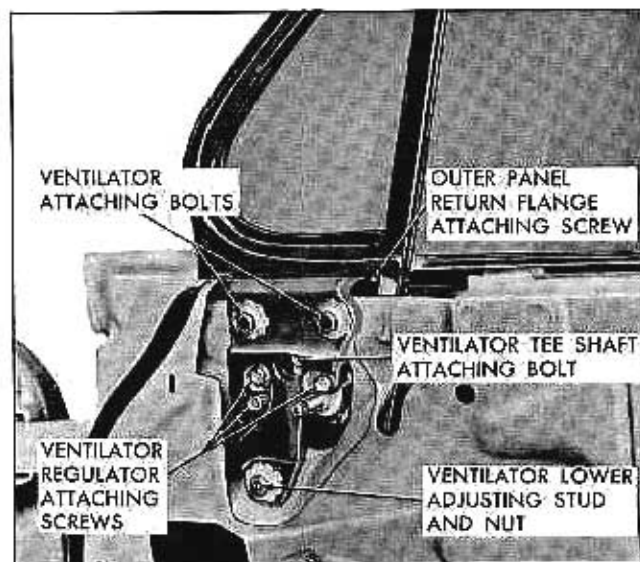

Fig. 2-20 Ventilator Regulator Assy.—Hard Tops
2. Remove ventilator tee shaft attaching bolt and ventilator regulator attaching screws (Fig. 2-20).
1. Excessive play (flutter of ventilator at pivot shaft when ventilator is in open position, can be corrected by tightening ventilator tee shaft to regulator shaft attaching bolt (Fig. 2-20).
2. Lower door window. Remove ventilator to door outer panel return flange attaching screw (Fig. 2-20).
4. Remove ventilator division channel lower adjusting stud and nut (Fig. 2-20).
remove ventilator attaching bolts (Fig. 2-20); then carefully lift ventilator assembly upward and rearward and remove from door.
2. Remove ventilator frame to outer panel attaching screw (Fig. 2-20).